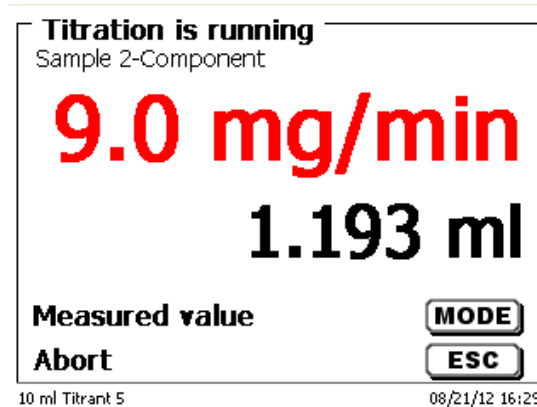

Fig. 52
- the use in ml with the drift in $\mu\text{g}/\text{min}$ (Fig. 52),